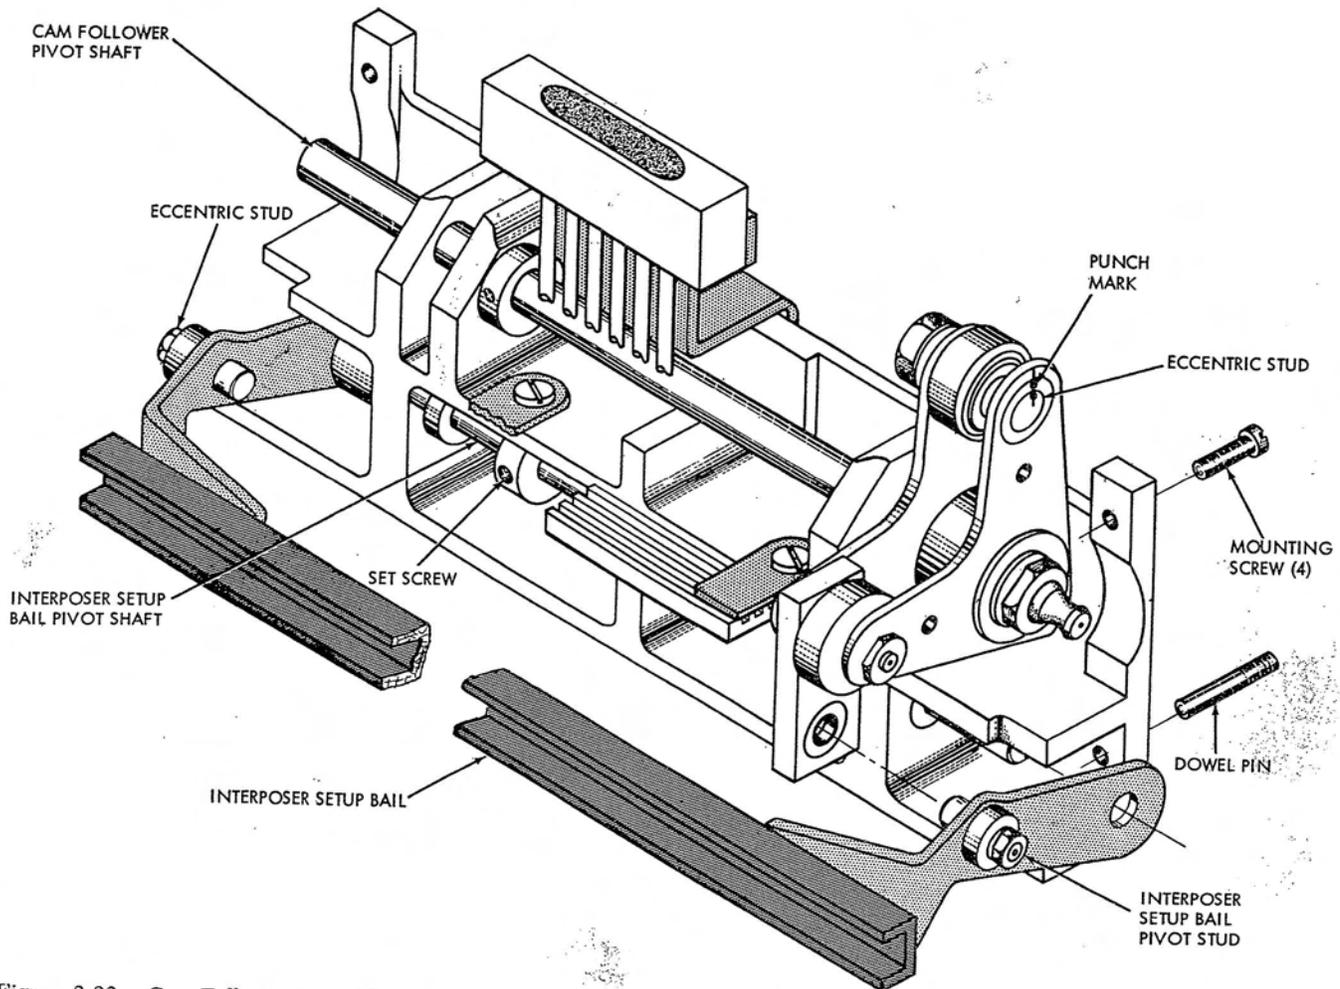

Figure 3-32. Cam Follower Assembly
1. Four collars on pivot shaft should be tight against inner race of pivot bearings. See Figure 3-32.
adjustment of the follower bearings impossible. See Figure 3-32.
3. Remove two dowel pins in cam follower mounting plate. See Figure 3-32.
4. Remove four mounting screws. See Figure 3-32.
1. Remove punch unit from machine. Refer to Figure 3-32 when performing Steps 2 through 8.